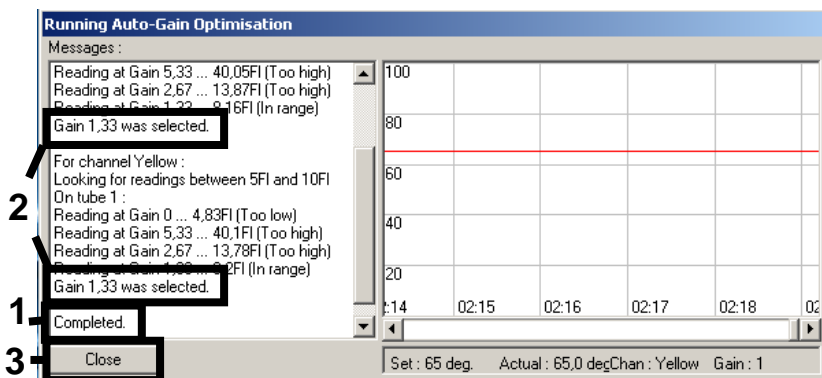

Figure 4. Gain optimization completed. Note gain values (in this case, 1.33 for both fluorescence channels).
- A new **Running Auto-Gain Optimisation** window opens. Wait until **Completed** appears in this window (Figure 4). Write down the selected gain values for both channels, and then click **Close** (Figure 4).